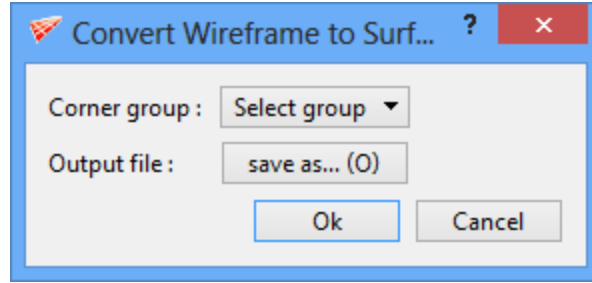

Figure 2.26: Wireframe to Surface conversion
**Wireframe to Surface:** Converts a given corner group as a quad surface and loads into the UI. Once it is selected, Wireframe to Surface dialog box opens as shown in figure 2.26 where a corner group and an output file name has to be provided.